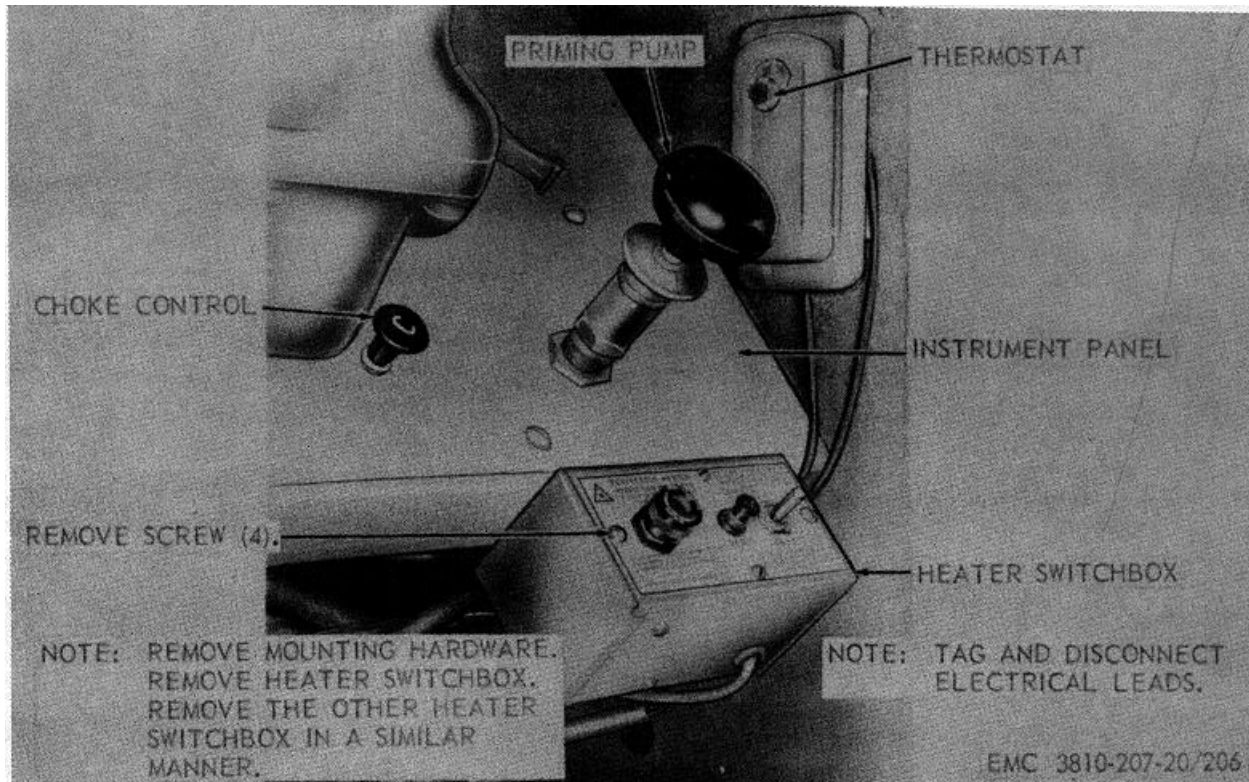

Figure 206. Heater switchbox, removal and installation.
a. Removal. Remove the heater switchbox as instructed on figure 206.
- (1) Clean all parts of the heater switchbox with a cloth dampened with an approved cleaning solvent and dry thoroughly.
- (2) Inspect all parts for damage and for proper operation. Replace or repair damaged or defective heater switchbox as necessary.
e. Installation. Install the heater switchbox as illustrated on figure 206.